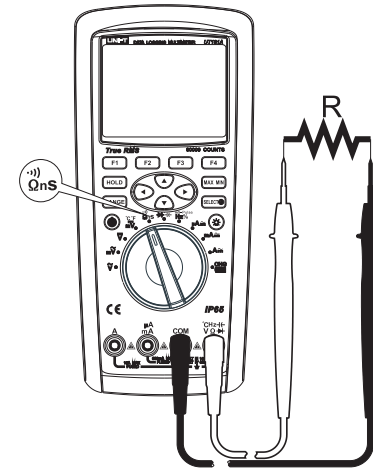

Figure 8
- 2) Set the rotary switch to the measurement Ω nS \rightarrow), and current Ω is the default resistance measurement as shown in Figure 8. Connect the test leads to both ends of the measured resistance.
- 2) Set the rotary switch to the measurement Ω ns. press the key SELECT to select conductance measurement 60nS. Connect the test leads to both ends of the measured resistance as shown in Figure 8.
- 2) Set the rotary switch to the measurement Ω nS \rightarrow , press the key SELECT to select the continuity test \rightarrow . Connect the test leads to both ends of the measured resistance as shown in Figure 8. Press the function key MENU (Menu) to enter the menu items. If pressing the key SHORT (Menu), then the buzzer selects